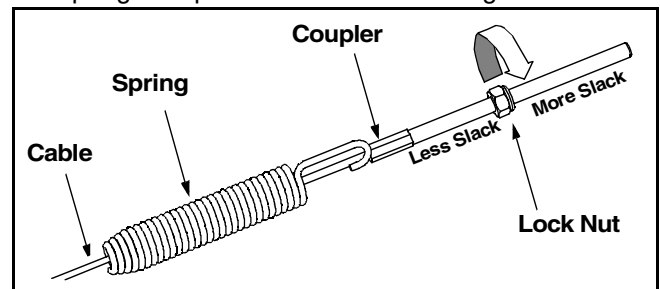

Figure 9
- Push the cable coupler through the end of the spring to expose the lock nut. See Figure 9.
- Thread the lock nut outward (down the coupler) to provide more slack in the cable or thread the lock nut inward (up the coupler) to provide less slack in the cable. Refer to Figure 9